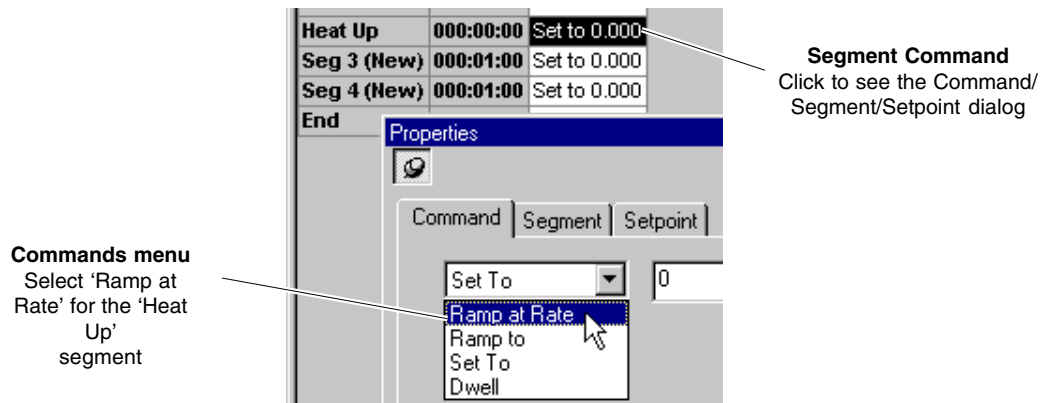

Figure 3-4 Configuring the 'Heat Up' segment
- Access the **Seg 2 (New)** cell Properties dialog. Edit **Profile Name** to '**Heat Up**', leaving **Duration** at its default. Click the default **Set to 0.000** cell in this row of the table to access the **Command/Segment/Setpoint** set of properties pages (Figure 3-4).